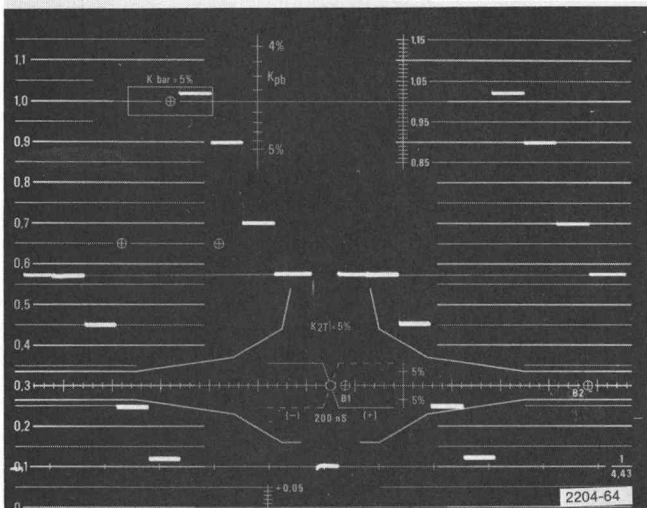

Fig. 6-17. Luminance Amplitude.
- f. CHECK—that the peak white level and the blanking level are overlaid within ± 7 mV. See Fig. 6-17.